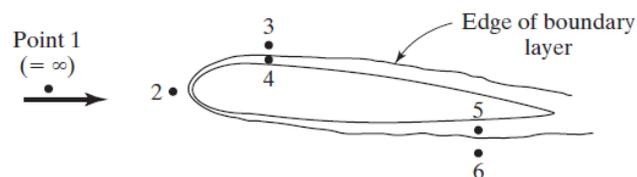

Fig. 3.
7. Consider a low-speed, steady flow around the thin airfoil shown in Fig. 3. We know the velocity and altitude at which the vehicle is flying. Thus, we know p_∞ (i.e., p_1) and U_∞ . We have obtained experimental values of the local static pressure at points 2 through 6. At which of these points can we use Bernoulli's equation to determine the local velocity? If we cannot, why not?